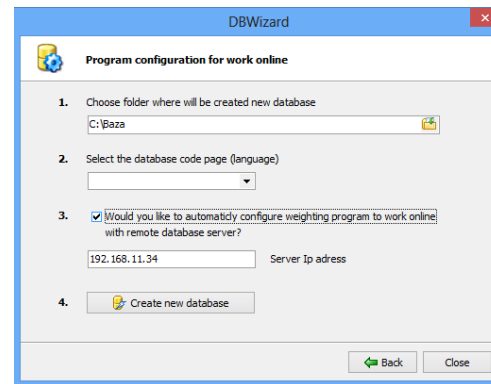

Fig. 34 Creating new, empty database
4. In the second wizard screen select file directory (folder) where a new empty database will be saved (Fig. 34). For this Manual it'll be "C:\Database".